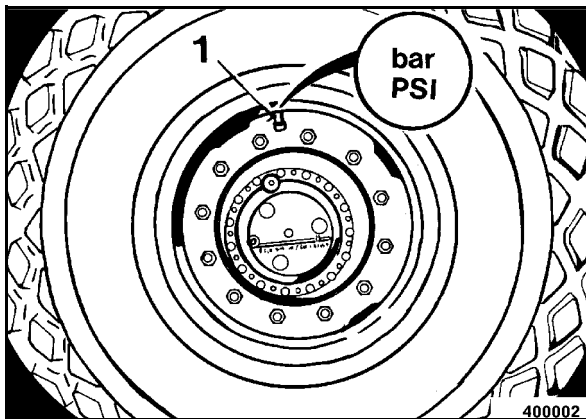

Fig. 127
- With the tire inflation valve check the air pressure on tire inflation valve 1 (Fig. 127) with a pressure gauge.